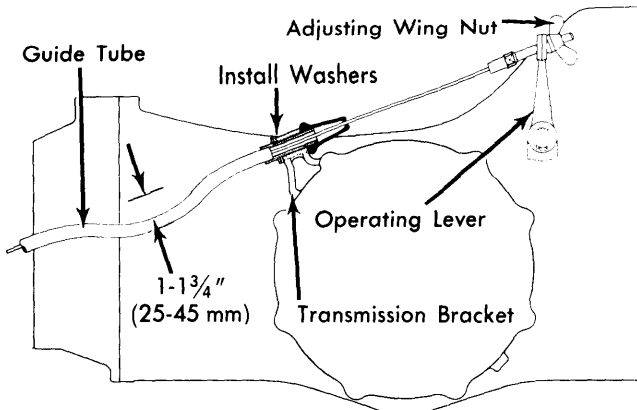

Fig. 2 Clutch Cable Measuring and Adjustment Points
**Guide Tube** — Clutch cable guide tube should sag approximately 1-1 $\frac{3}{4}$ " (25-45 mm). See Fig. 2. This preload is obtained by inserting or removing washers between bracket on transmission and end piece of guide tube. **NOTE** — If sag is greater than 1 $\frac{3}{4}$ ", stiff operation and/or damage may result.